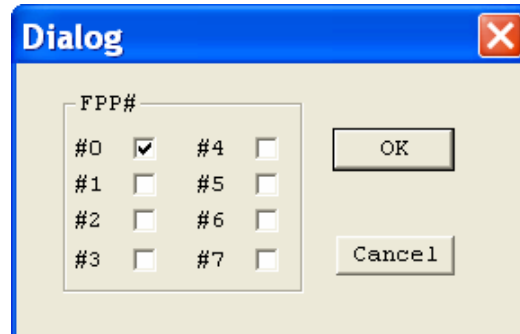

Fig.4-5 : Dialog of ICE Trap Setting
Step 5 : In debug mode , using  to set a break by moving the cursor to the line where you want the program to be stopped , a blue dot  indicates breakpoint had been set successfully , there are maximum five breakpoints can be set . Click  again to clear single breakpoint by moving the cursor to the line where you want . Click  to clean all the breakpoints at the same time . In the FPPA™ architecture , there are more than one program counter in one chip , each program counter belongs to its own FPPA™ correspondingly , FPP unit may be the condition to trap the program counter . Selecting the FPP unit to trap program counter in the debug mode , enabling this dialog from "Build -> ICE Trap Setting" , the window is shown as Fig.4-5 . The comparison would not be taken place whenever the active program counter belongs to those disabled FPP units . The default FPP unit for trapping is #0 .